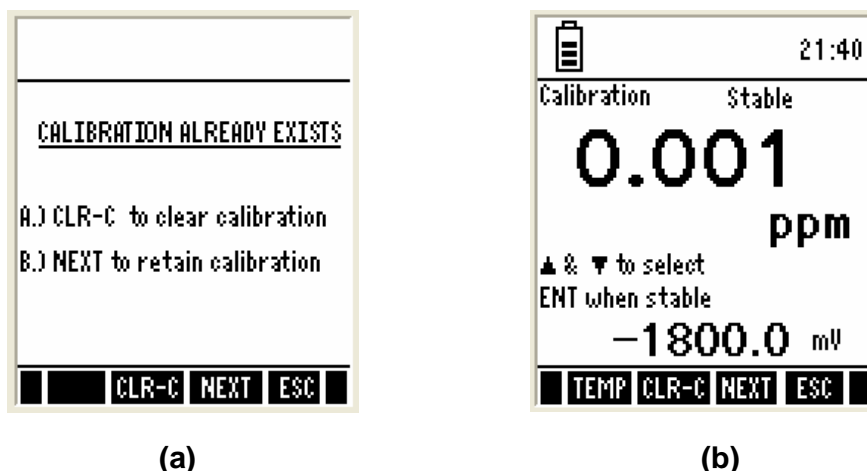

Figure 33 : Ion calibration screens
3. The meter shows 'Calibration-Rinse Electrode' screen [Figure 28-(a)] few seconds and then shows the Ion calibration screen [Figure 33-(b)]
Note: If there is an existing ion calibration in the meter, you will be given two options. [Figure 33-(a)]